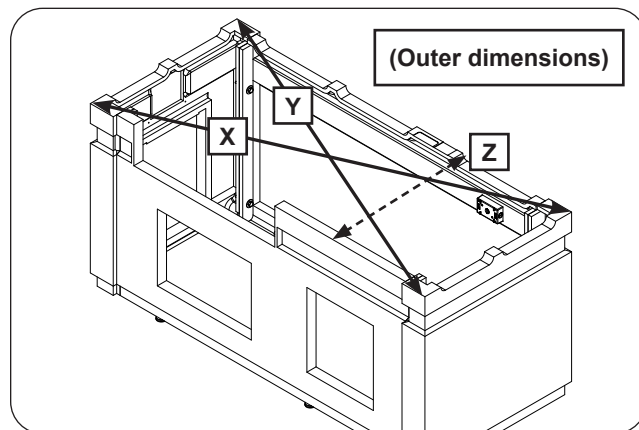

Fig. 8-2 Square unit (then tighten bolts)
- a. Measure the X outer dimension, see Fig. 8-2. It should be approximately $79 \frac{3}{4}$ ".
- b. Measure the Y outer dimension, see Fig. 8-2. Carefully adjust the side walls as needed to ensure the X & Y dimensions are equal. (The final dimension may slightly vary from that mentioned in step a.)
- c. Measure the Z outer dimension, see Fig. 8-2. It should be approximately $30 \frac{1}{2}$ ".